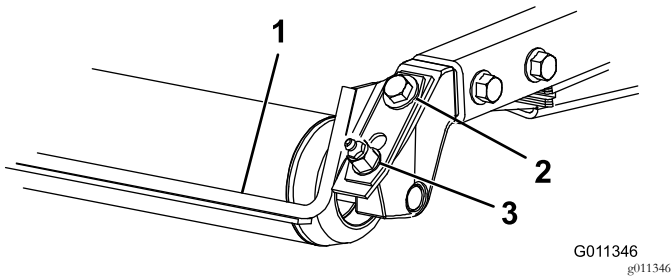

Figure 7
1. Loosen the grease fitting and the mounting screw (Figure 7).